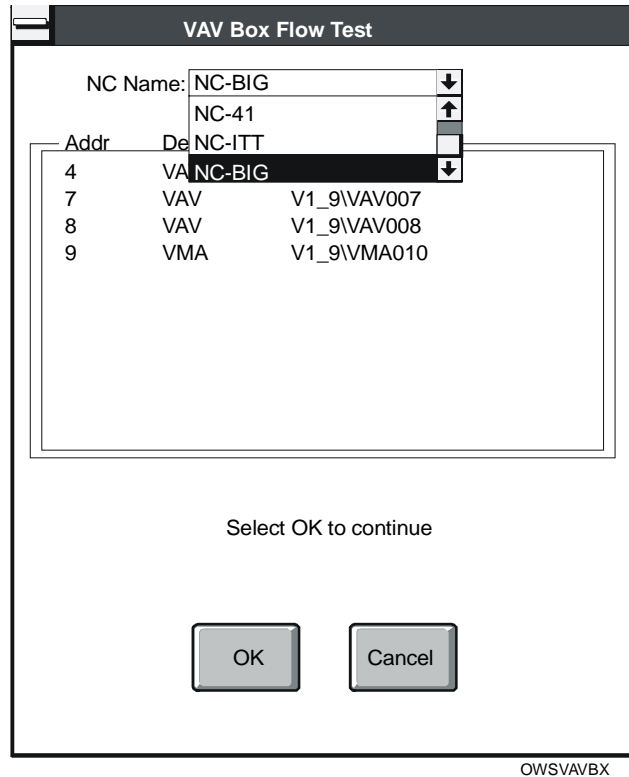

Figure 16-18: OWS - VAV Box Flow Test Dialog Box
3. Verify the Flow Test Parameter values and click OK. HVAC PRO software displays the dialog box shown in Figure 16-18.